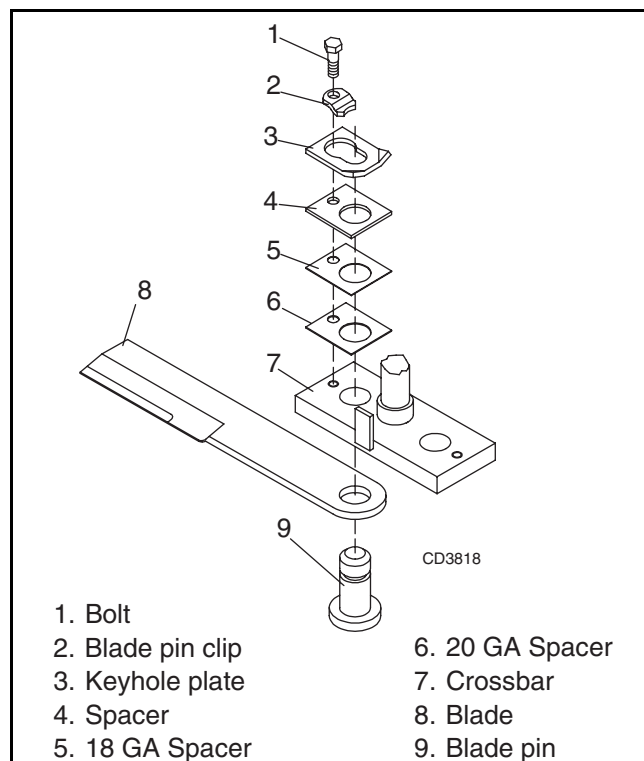

Figure 7. Blade Removal & Installation
(1) and blade pin clip (2). Slide keyhole plate (3) out of blade pin groove and remove. Remove spacers and drive pin out of crossbar. See Figure 7.
Install blade pin (9) up through blade (8) then through hole in crossbar and push firmly against crossbar (7). Install as many spacers (4, 5 or 6) as possible and still be able to slide keyhole plate (3), with ears up as shown, into blade pin groove. Place blade pin clip (2) over keyhole plate and into blade pin groove. Secure with bolt (1). Repeat for opposite blade. See Figure 7.